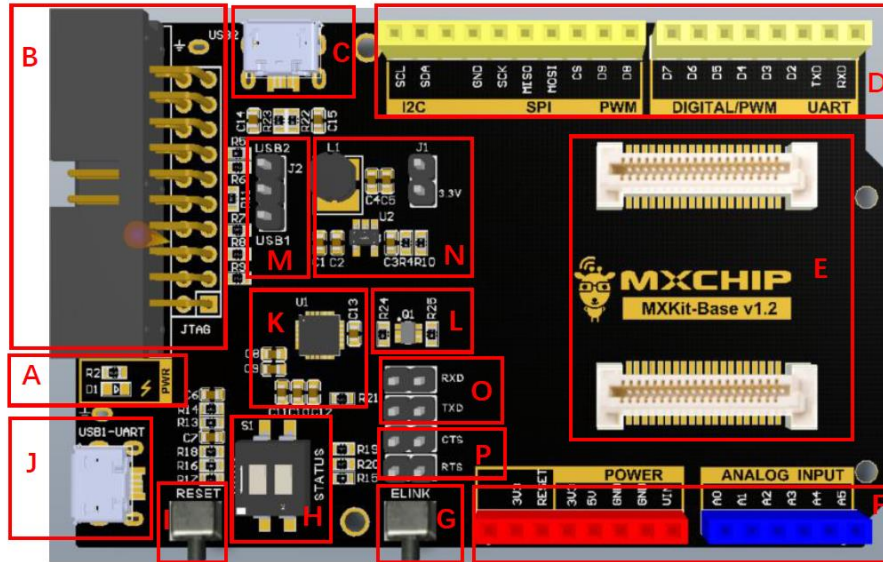

Figure 1.1 MXKit-Base
The schematic diagram of the MXKit-Base board composition is shown in Figure 1.1. The description of each component and function is shown in Table 1.2.
(1) In Figure 1.1, the O region RXD (J4) and TXD (J6) default using a jumper cap by default, when the module user serial port communicates with the PC by USB1-UART; when the module communicates with the TXD and RXD of the Arduino interface, the RXD (J4) and the jump line terminals need to be disconnected.
(2) When using the hardware flow control function of the user's serial port, the P area CTS (J5) and RTS (J3) in Figure 1.1 need a short jump cap, and please disconnect when the hardware flow control function is not used.